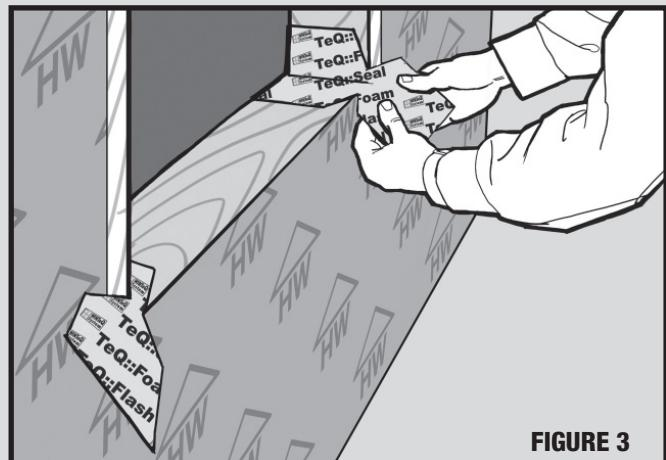

FIGURE 3
2.2.1. Pre cut a length of 6” TeQ::Flash 12” longer than the sill rough opening. Apply pre cut flashing by removing the release backing and carefully starting 6” up and 3” in rough opening (or minimum depth of window frame) on the jamb side. Continue to apply the flashing across sill and up opposite side jamb. Once the flashing is attached to the sill and jambs, make a cut in each corner to allow the remaining unattached flashing to fold out and over the exterior sheathing. (Figure 3)